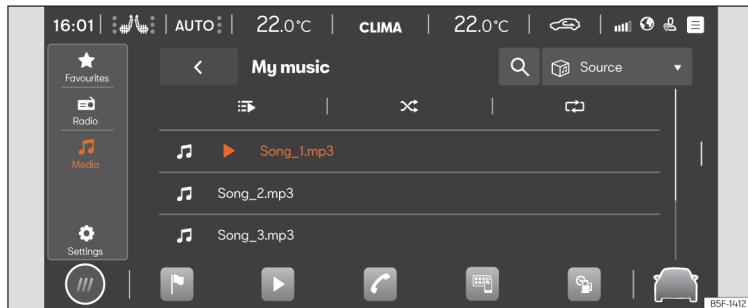

Fig. 170 Schematic diagram: Media view
- Press **HOME** > ► > 🎵 >>> Fig. 170.